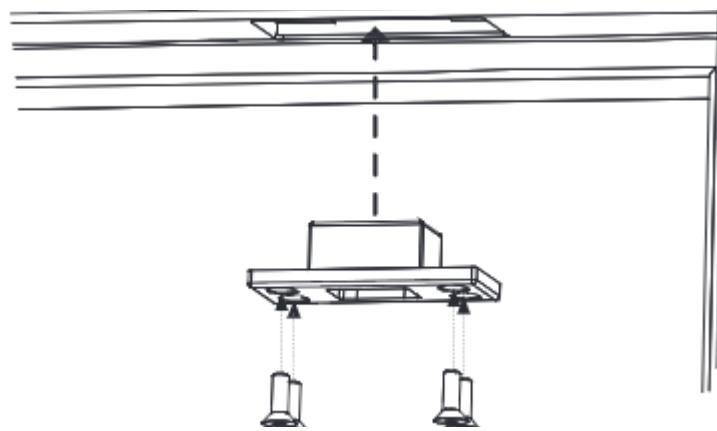

Figure 2
- Install four (4) #12-24 socket cap flat head screws. (Figure 2).